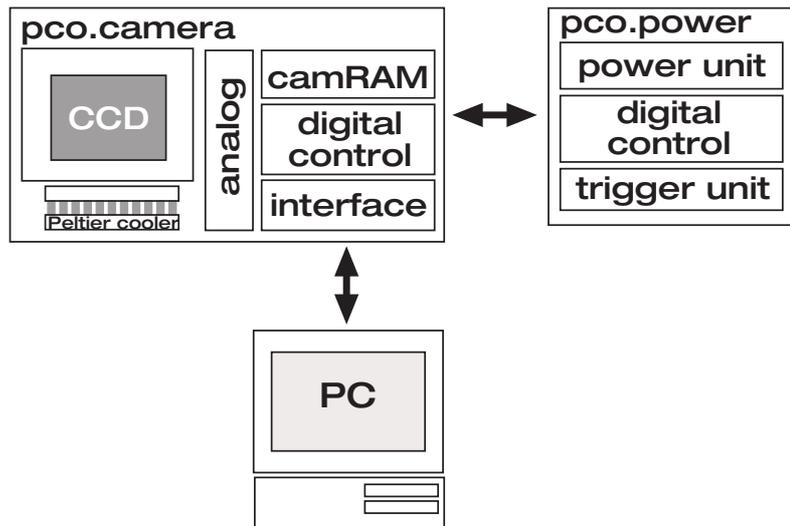

Figure 3.1: Structural overview of the pco.camera system components
Inside the camera, photons are converted into charges by the image sensor (see Figure 3.1, CCD or CMOS). Depending on the type of camera, the image sensor is cooled by a thermo-electrical Peltier cooler, to reduce the accumulation of dark charges (only relevant for long exposures) and to prevent thermally induced changes in the offset of readout images.
After multiple shift processes (in case of the CCD image sensor) these charges are analog processed (see Figure 3.1, analog) and converted into digital signals. They are then transferred at very high data rates into the primary image memory of the camera (see Figure 3.1, camRAM, CCD – 160MB/s). In the memory, they are stored as image data. Depending on the selected operating mode (see Figure 3.1, pco.camera - digital control), they are stored or transmitted via a data interface to a PC (see Figure 3.1, interface).
The power supply (see Figure 3.1, pco.power) provides the required energy. This power supply also has other functions (see Figure 3.1, power unit):
- The power supply has all of the external connections for exposure control (see Figure 3.1, trigger unit), and
- The power supply controls the pre-set temperature at the image sensor (see Figure 3.1, pco.power – digital control).
and reconnect it later. Further, the image memory in the camera enables (see Figure 3.1, pco.camera – camRAM) extended operating modes (e.g. ring buffer operation). In this mode, images are continuously recorded and, as the memory is filled, the oldest image data are overwritten. Once the event finishes, it is possible to stop the recording process and the event will reside in the memory, as well as a certain amount of time before the event. Once recording is finished, the user can stop the recording process and keep it in memory as well as a certain time before the event. In the following sections, single components image memory, Live-View, CCD readout, CCD cooling and color display are described in more detail.